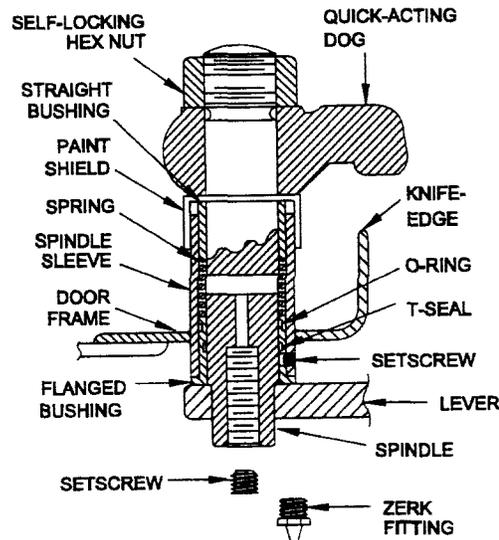

Figure 3-1A. Quick-Acting Door Dog Assembly (Cross Section View) Modified by MACHALT 167-31010 (ECP-526)
- a. Remove setscrew. Clean internal grease passages of spindle using EDC cleaning fluid and cotton tip applicators. Clean internal threads of spindle with a 5/16-24UNF tap, using LPS Tapmatic no. 1 gold as a lubricant. Reinstall setscrew. See figure 3-1A.